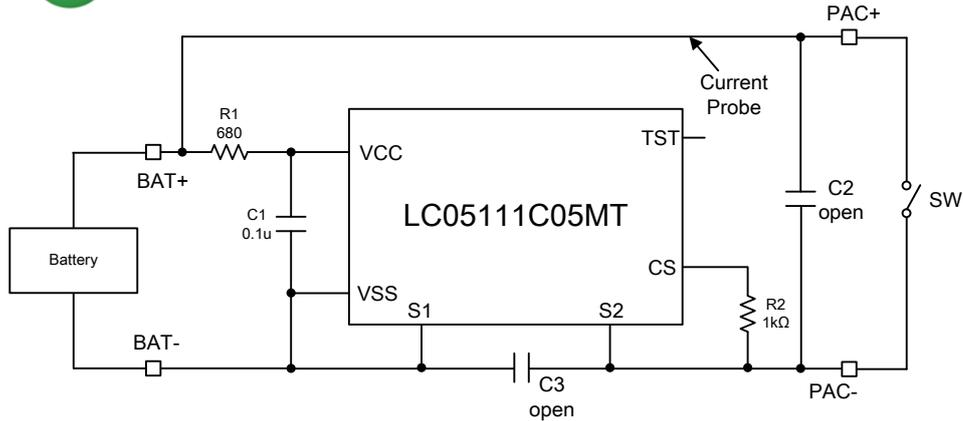

Figure3. LC05111C05MTGEVB Recommended Test Set Up for Discharge Current2(short current)detection
1. Connect LC05111C05MTGEVB like upper Figure3.